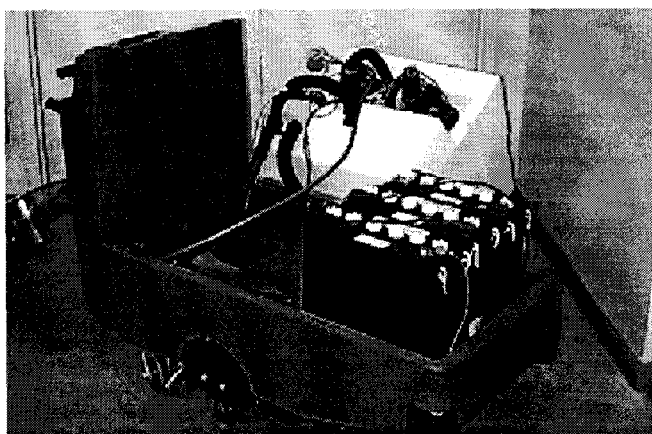

FIG. 25.
2. Disconnect drain hose from holder and push hose halfway through U-bracket below. This will allow hose slack when hinging tank. (*Figure 25*)
- Loosen lock nut on tension bolt. (Figure 25)